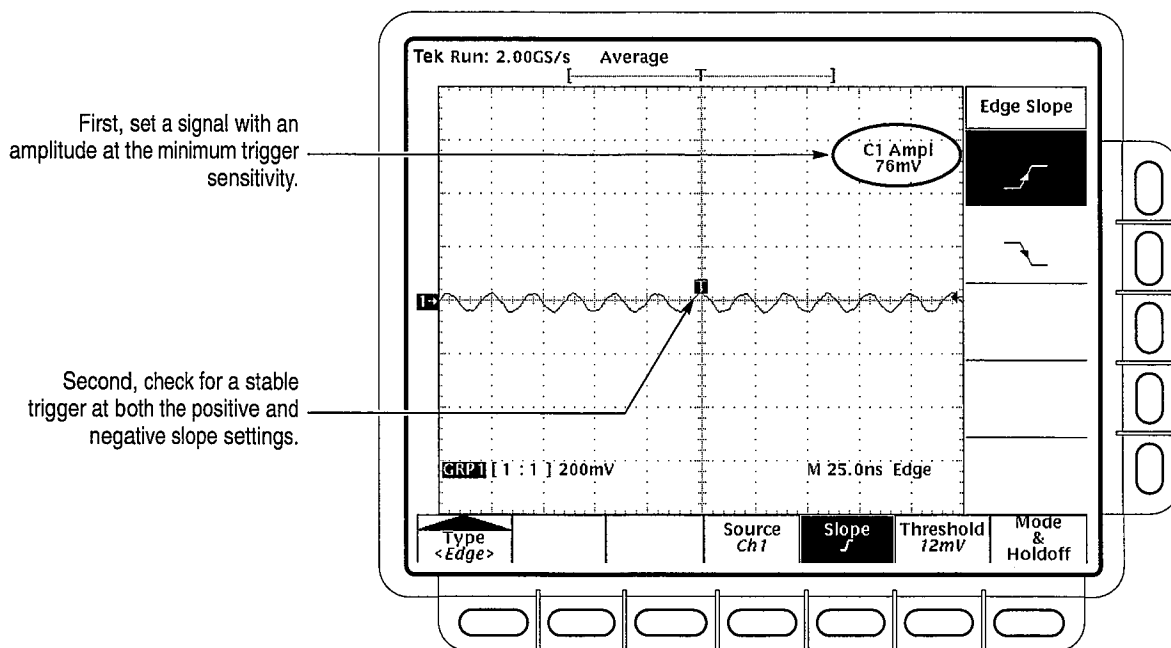

Figure 1–19: Measurement of Trigger Sensitivity
- a. Remove the 10X attenuator from the hookup. Connect a BNC-T connector to the **AUX TRIGGER** input on the rear panel. Connect one side of the T connector to the generator through a 50  $\Omega$  coaxial cable; connect the other side of the T connector to channel 1 through a 50  $\Omega$  coaxial cable, an SMA to BNC adapter, and a coaxial adapter. See Figure 1–20.